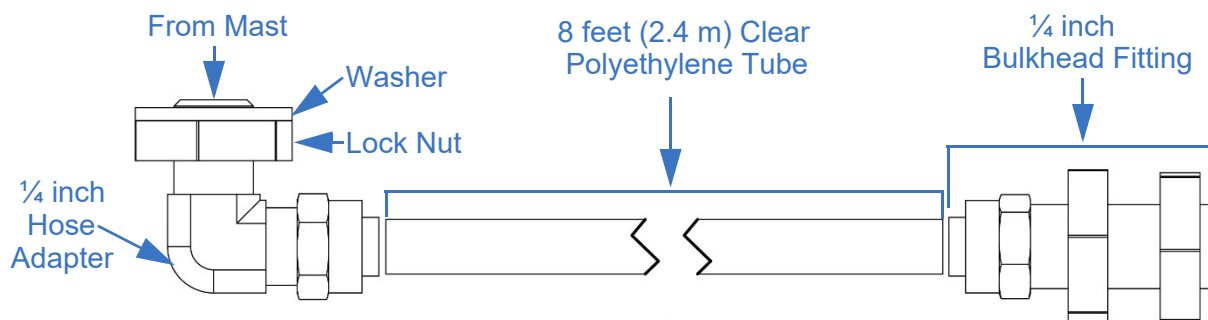

Figure 4-5 Drain Kit (P/N: 902982)
1. Be certain the locknut and washer are threaded over the end of the ¼ inch (6.35 mm) hose adapter (Figure 4-5).
4. Fasten the bulkhead fitting to the hole (Figure 4-5).
5. Attach the polyethylene tube to the hose adapter and the bulkhead fitting (Figure 4-5). As necessary, the polyethylene tube may be cut shorter to fit the customer-specific application. Apply PTFE Tape to all threaded joints.